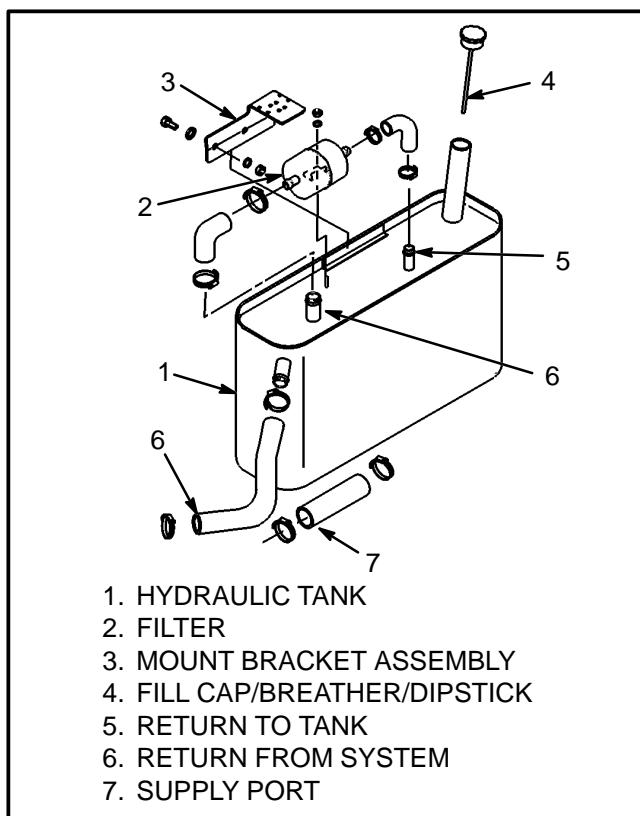

FIGURE 10. J2.00-3.20XM (J40-65XM)
J2.00–3.20XM (J40–65XM) Tank Removal (See FIGURE 10.)
6. Remove the screws from the bracket that fastens the bracket holding the hydraulic tank in the truck frame. See item 3 of FIGURE 10. Remove the bracket assembly.
J2.00–3.20XM (J40–65XM) Tank Installation (See FIGURE 10.)
4. Install the other hoses and if removed, the filter on the tank. Install the bracket that fastens the hydraulic tank in the truck frame. See item 3 of FIGURE 10.